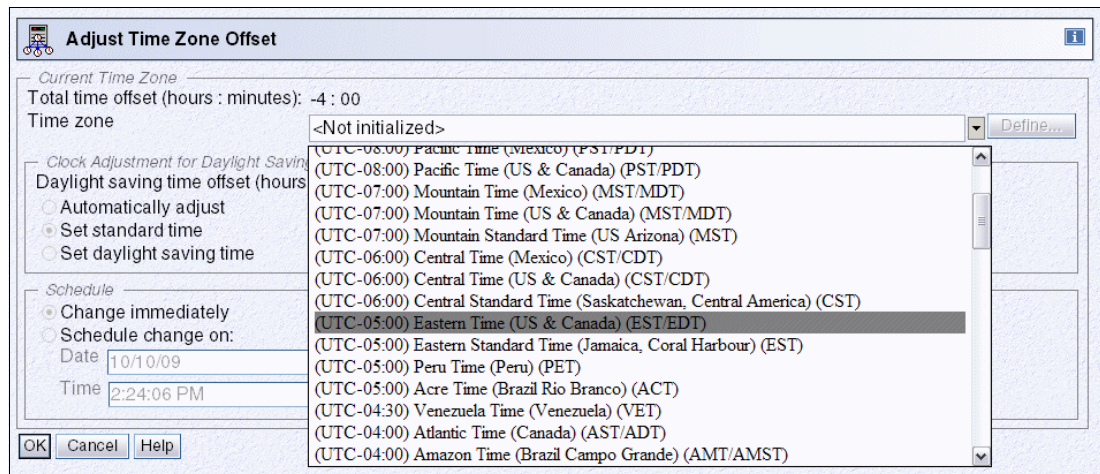

Figure 2-26 Timing Network tab - Adjust Time Zone Offset
On the Timing Network tab, click **Adjust Time Zone** to display the Adjust Time Zone Offset window (Figure 2-26).
- ▶ The time zone offset from the UTC value is set to -5:00 and the daylight saving time value is set to 1:00, reflecting the changes made in Figure 2-26 on page 75.